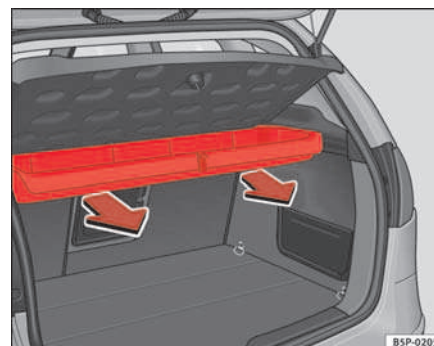

Fig. 120 Removing storage shelf
- Pull outwards until the compartment is freed from the pivot point ⇒ **fig. 120.**